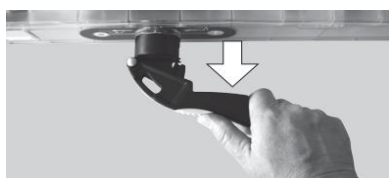

Fig. 13/ Fig: 13
- Lift the lever slightly (Fig: 13).